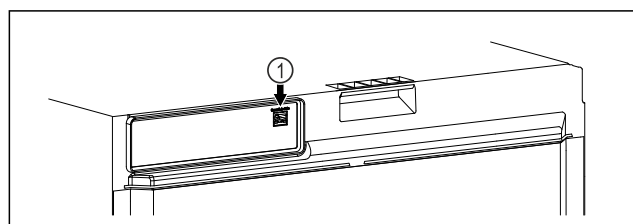

Fig. 100
- ❑ SmartModule Fig. 100 (1) has been inserted.